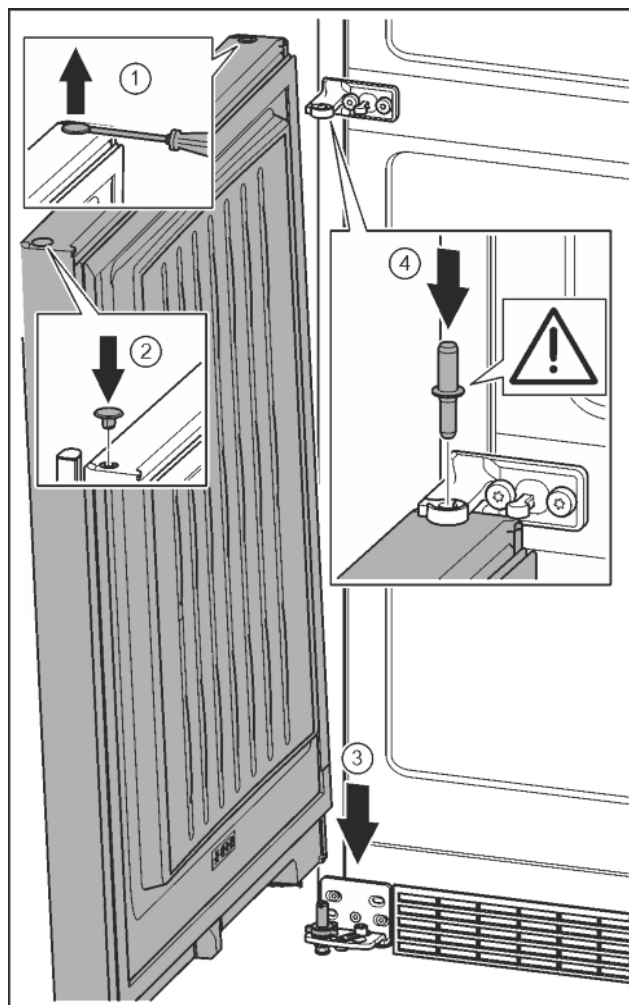

Fig. 23
- ▶ Carefully lift up the plugs with a slotted screwdriver and remove them. *Fig. 23 (1)*
- ▶ Insert the plugs again on the other side of the door. *Fig. 23 (2)*
- ▶ Position the door from above onto the lower bearing pins. *Fig. 23 (3)*
- ▶ Insert the centre bearing pin through the centre bearing bracket into the lower door. Make sure that the catch mechanism is pointing to the rear. *Fig. 23 (4)*